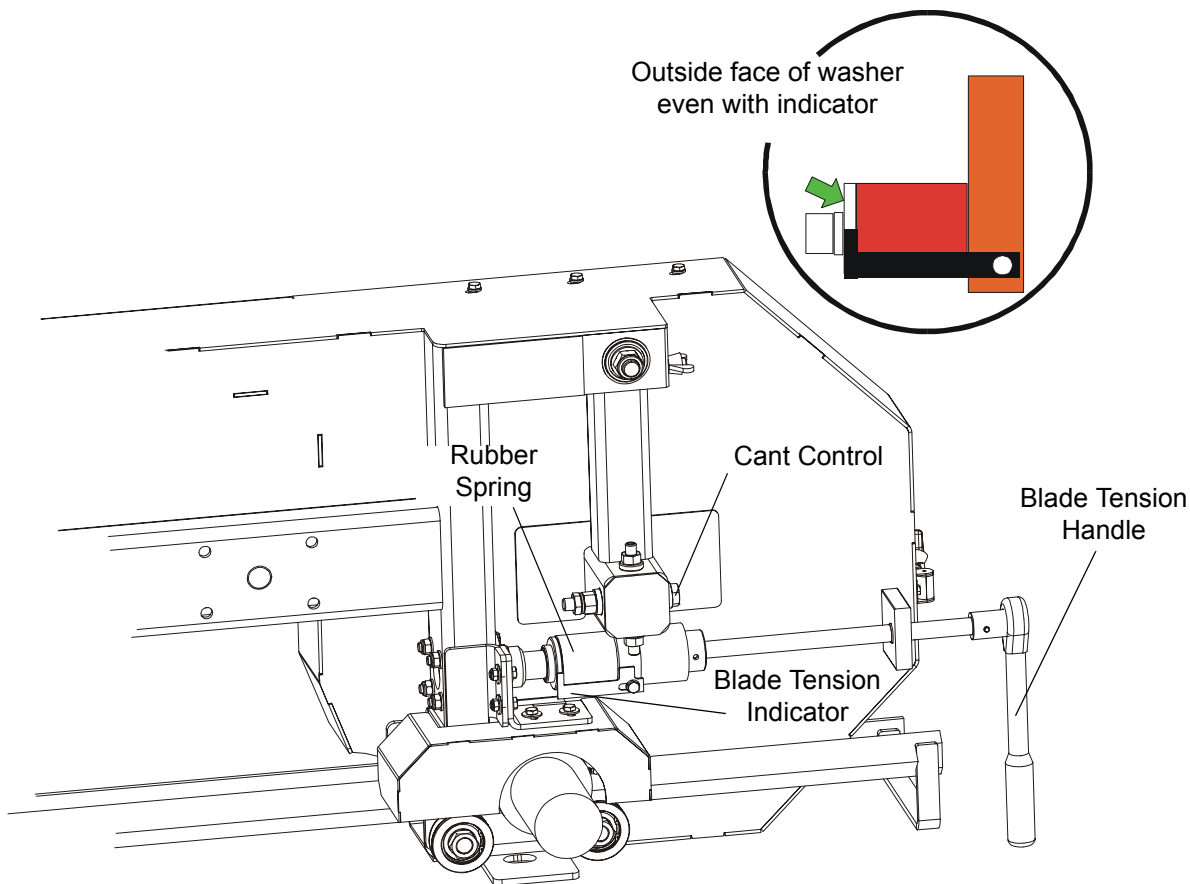

FIG. 3-5
See **Figure 3-5**. Turn the blade tension handle clockwise to compress the rubber spring and tension the blade. Check the blade tension occasionally when adjusting the cant control or while cutting. As the blade and belts heat up and stretch, the blade tension will change. Also, ambient temperature changes can cause tension to change. Adjust the tension handle as necessary so that the indicator is parallel to the blade guide arm.
5. Use the cant adjustment bolt, shown in **Figure 3-5** to adjust where the blade travels on the blade wheels.